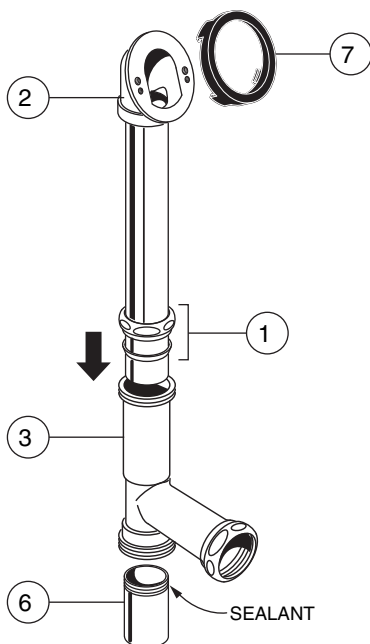

FIG. 1
- Loosen SLIP JOINT NUT & SEAL (1) and install onto OVERFLOW TUBE (2). Install OVERFLOW TUBE ASSEMBLY (2) into the appropriate leg of the DRAIN TEE (3). Apply sealant to threads of TAILPIECE (6) and thread into DRAIN TEE (3). Install OVERFLOW GASKET (7) to OVERFLOW TUBE ASSEMBLY (2). (Adjust OVERFLOW GASKET (7) to contour of tub. FIG.1.
- Remove the UPPER LINK (1) from the SPRING CLIP (2) and slide the pointed end through the small hole in the CAM (3). Fig. 1.